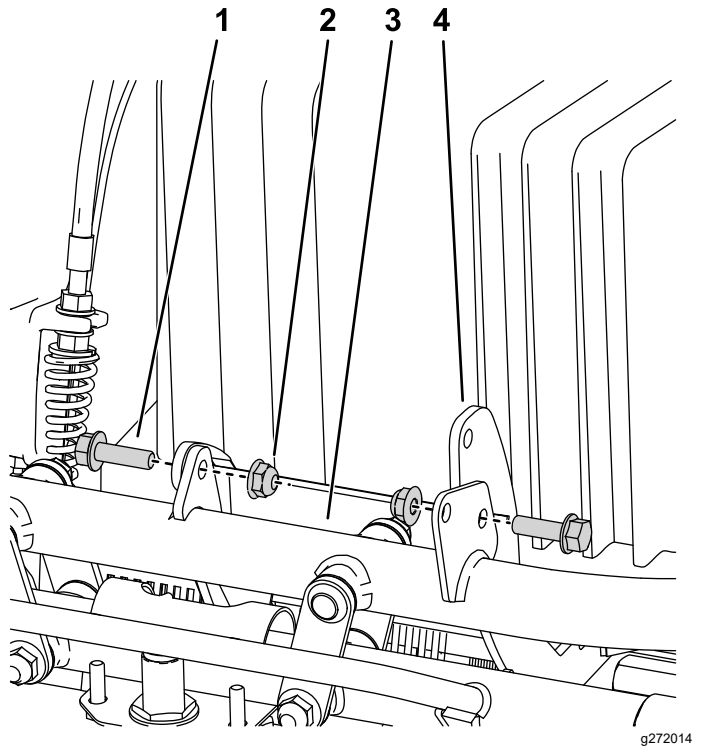

Figure 4
4. Remove the 2 bolts and nuts that secure the battery platform to the front of the machine and remove the platform and battery (Figure 4).